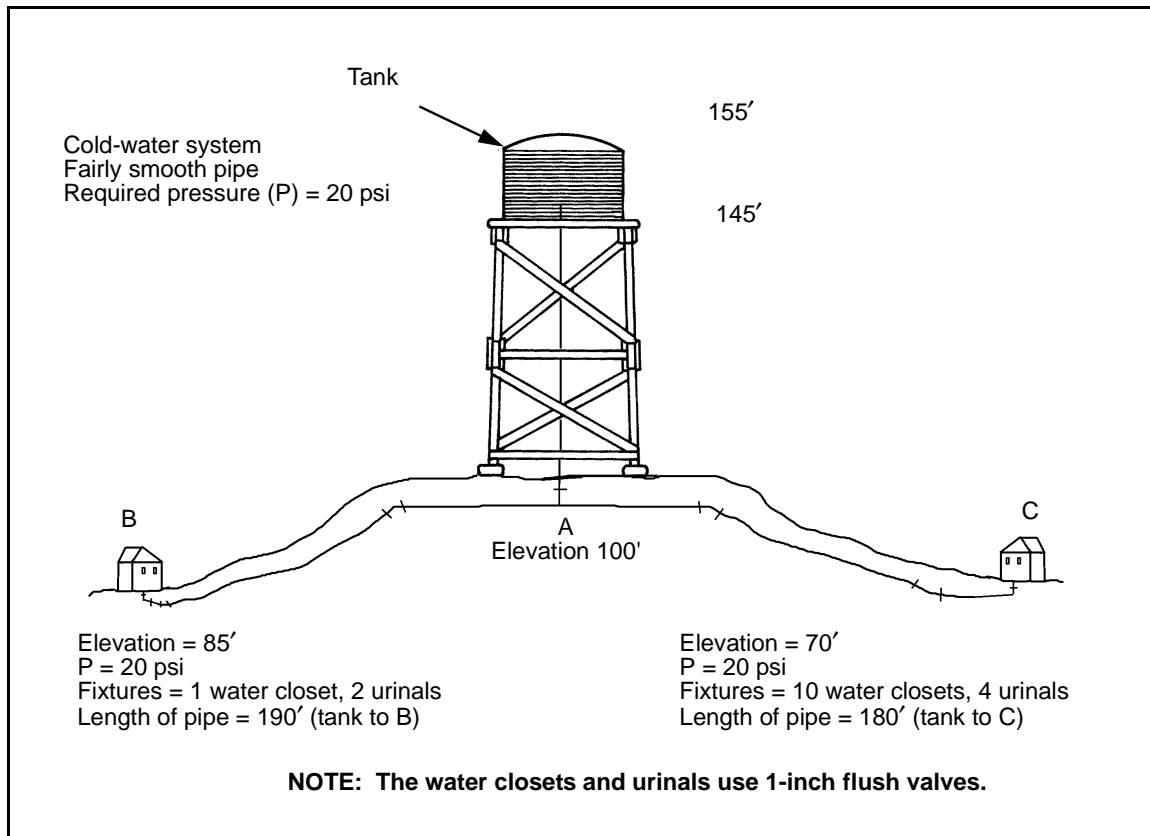

Figure E-5. Water Line, Design 2
Step 3. Determine the pipe length (Figure E-5).
Step 3. Determine the length of the pipe (*Figure E-5*).
Step 3. Determine the length of the pipe (Figure E-5, page E-8).